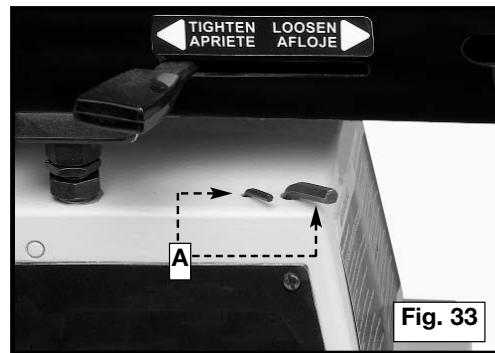

Fig. 33
Two holes are provided in the base casting to store the two wrenches (A) Fig. 33, supplied with the sander.